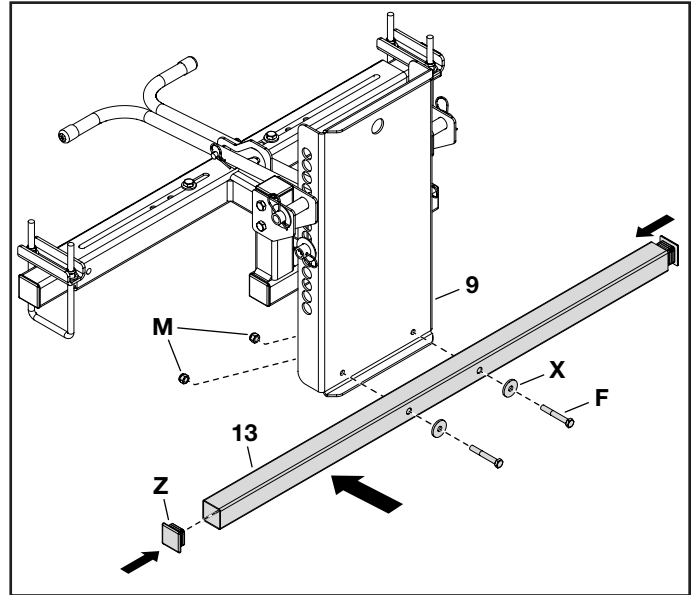

FIGURE 8
STEP 8: (SEE FIGURE 8)
- Attach the square tube (13) to the bulkhead (9) using two hex bolts (F), washers (X) and hex nuts (M).
- Insert the two square plugs (Z) into the square tube.